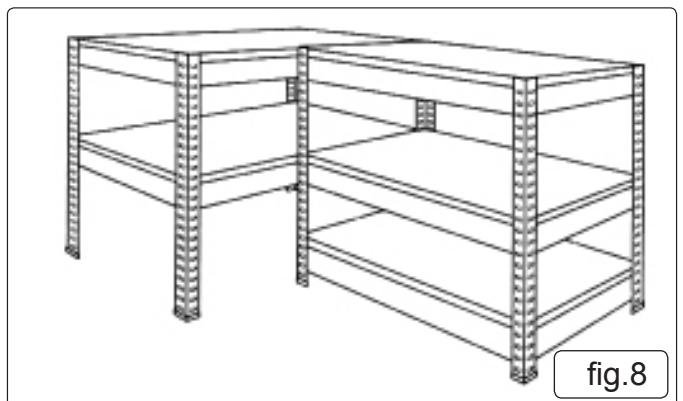

fig.8
- 5.9. See fig.8. To assemble as a corner unit make up two separate frames following steps 5.1 to 5.3 but with different shelving positions. Make up one frame with 3 shelves and one frame with two shelves as shown below. Ensure that the middle and top shelves on both frames are at the same height. Fix the frames together with the four nuts and bolts supplied. Place the 5 MDF shelves into position in the frames.